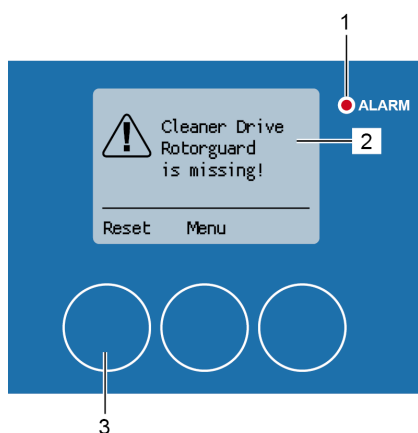

Fig. 191: Clock sensor alarm
The alarm message “Cleaner Drive Rotorguard is missing!” (Fig. 191/2) occurs during the cleaning process if there is a problem with the clock sensor. The red alarm LED (Fig. 191/1) lights up.
2. Reset the alarm message with [Reset] (Fig. 191/3).